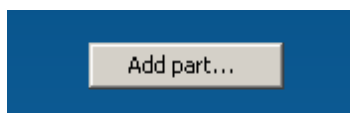

Fig. 4.3.1 Add a part into assembly
- 1) Make a right-click and select the **Add Part...** command in the context menu (Fig. 4.3.1).